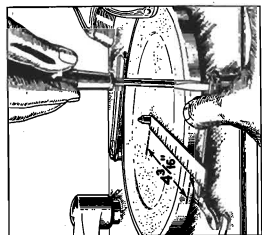

Figure 3—Adjusting elevator pad
7. After the instrument has completed one record changing operation, a ten inch record should extend about three-quarters way over each elevator pad. If this condition does not exist, an adjustment can be made by means of the screws that hold the pads in position. A pair of pliers heavily padded with cloth or other soft material should be used to hold the elevator shafts while loosening and tightening the screws. The distance from the closest part of either pad to the edge of the spindle is approximately  $4\frac{1}{16}$ ". Figure 3 shows the method of making this adjustment.